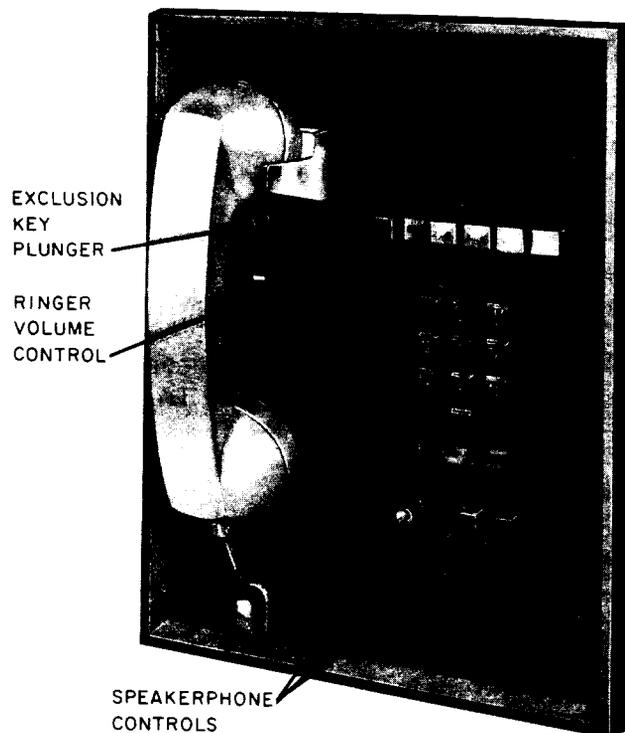

Fig. 1—1752-Type Telephone Set
1.01 This section provides identification and installation information for the 1752-type telephone set (Fig. 1). This information was formerly contained in Section 502-750-102.